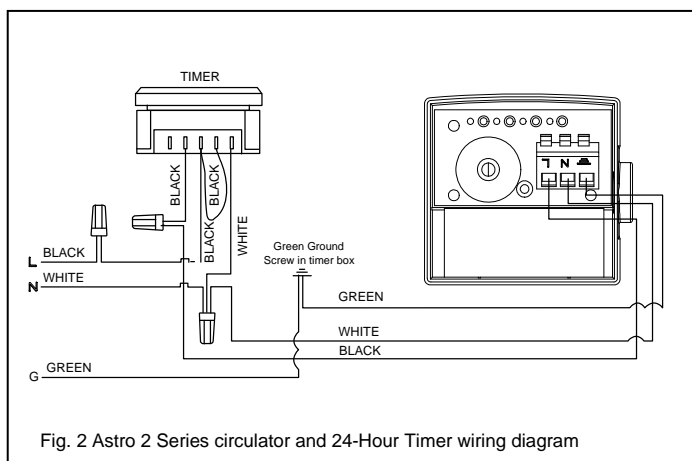

Fig. 2 Astro 2 Series circulator and 24-Hour Timer wiring diagram
- a. Unfasten the mounting screw (4A) and remove the terminal box cover (3).
- b. Unfasten the mounting screw (4B) on the timer box cover (10) and detach it from the base (8).
- c. Remove the original conductor (7A) from the circulator terminal box (2)
- d. Fasten the connection adaptor (7B) to the circulator terminal box (2)
- e. Fasten the threaded fitting (6) to the connection adaptor (7B)
- f. Fasten the lock nut (5A) on the end of the threaded fitting (6) and insert the timer box (8)
- g. Fasten the lock nut (5B) onto the end of the threaded fitting (6) so the timer box (8) is in between and securely attached.
- h. Connect timer lead wires (black, white and green) to the terminal box (as shown in Fig. 2).
- i. Re-attach the timer box cover (10) using the mounting screw (4B). Insure that all lead wires are inside the timer assembly.
- j. Close the terminal box cover (3) by fastening the mounting screw (4A).